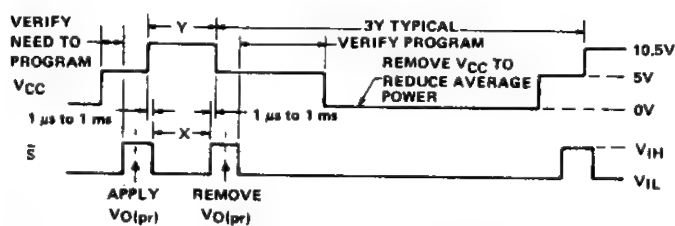

FIGURE 2 — VOLTAGE WAVEFORMS FOR PROGRAMMING
6. Apply a low-logic-level voltage to the chip-select input(s). This should occur between  $1\text{ }\mu\text{s}$  and  $1\text{ ms}$  after  $V_{CC}$  has reached its 10.5-V level. See programming sequence of Figure 2.